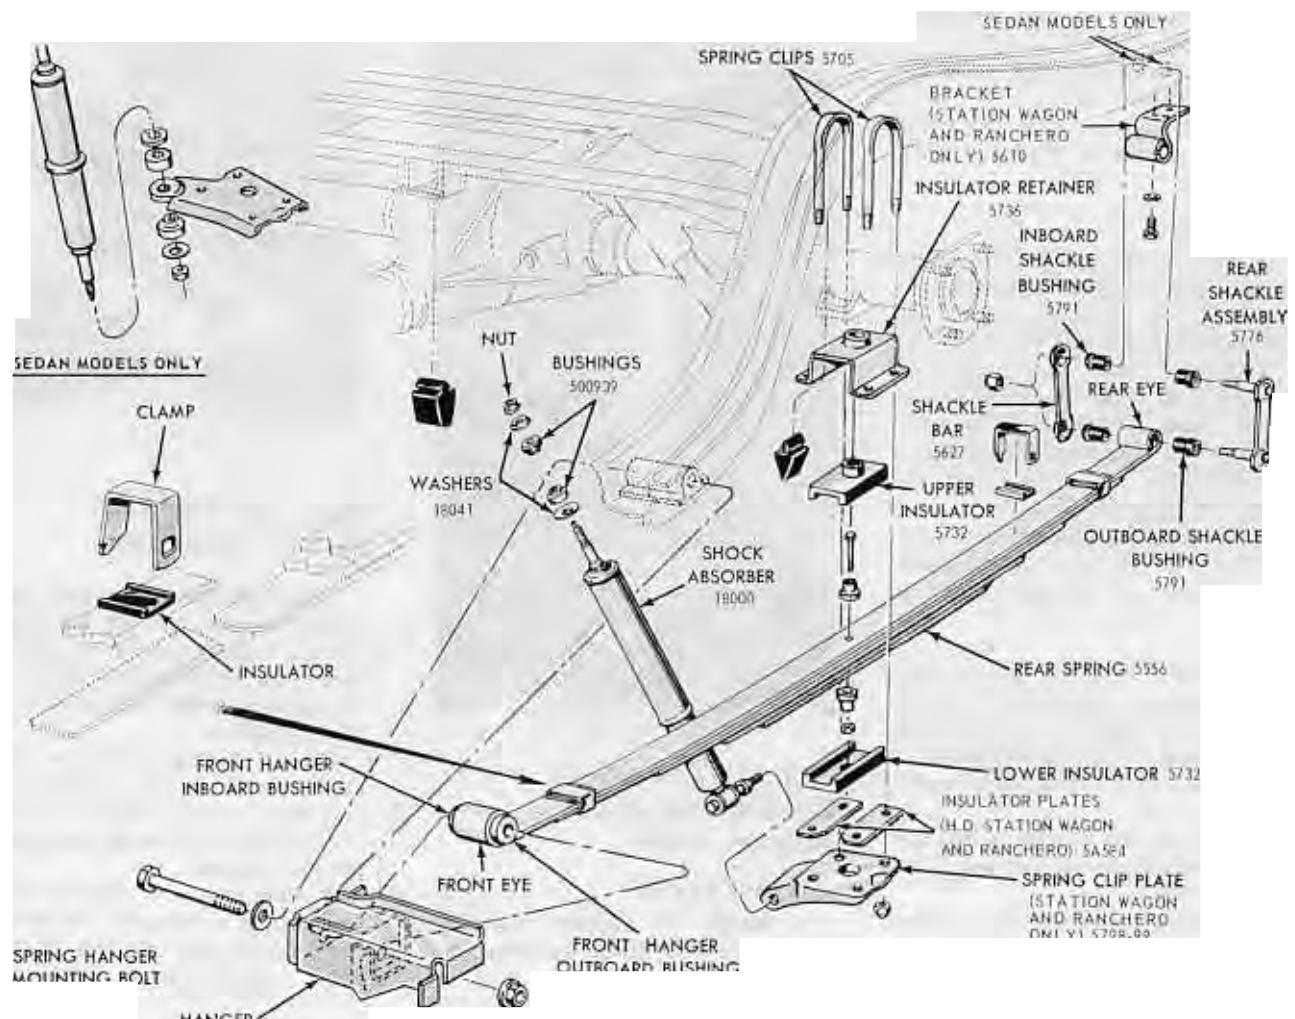

FIG. 18 Rear Spring and Shock Absorber—Typical
1. Disconnect the shock absorber from the spring clip plate (Fig. 18).
spring clip plate (Fig. 18). Compress the shock absorber and remove it from the car.
3. Connect the lower stud to the spring clip plate, and install the bushing, washer, and nut on the stud (Fig. 18). Be sure the spring clip plate is free of burrs. Tighten the nut to specification.
3. Remove the spring clip plate nuts from the U-bolts; then, remove the plate (Fig. 18).